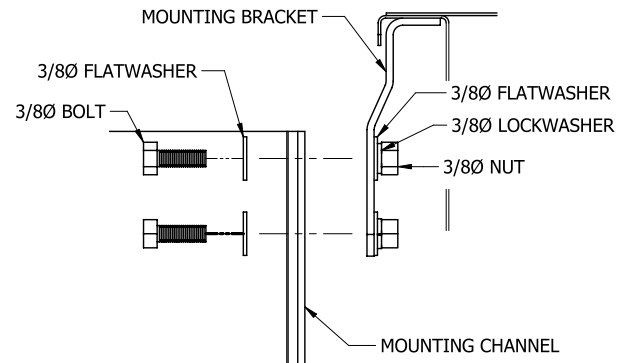

Figure 21 - Mounting Base Installation.
2. Use 3/8" flat washers, lock washer and nuts to secure the mounting channel to the bracket (See Figure 21).